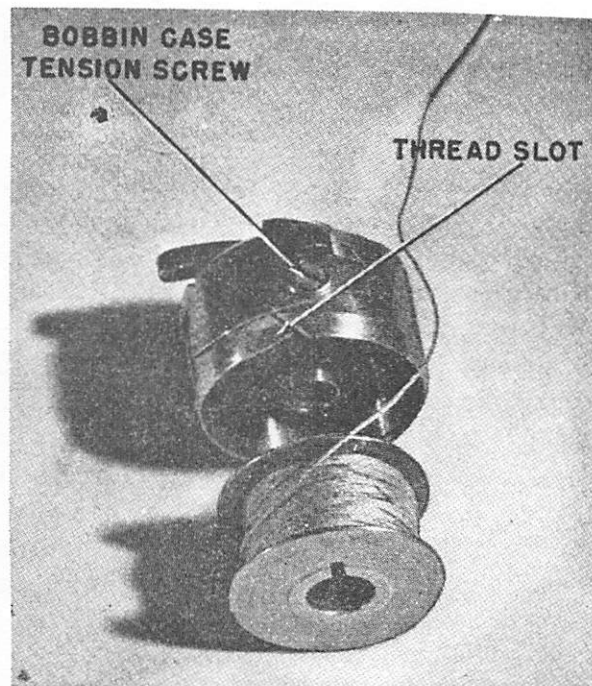

Figure 2. Bobbin case with bobbin ready to be slipped in
a. Figure 2 shows the relative positions of the bobbin case, bobbin and thread when the bobbin is put into the bobbin case. The thread should draw over the top of the bobbin and from left to right just before the bobbin is slipped into the case.